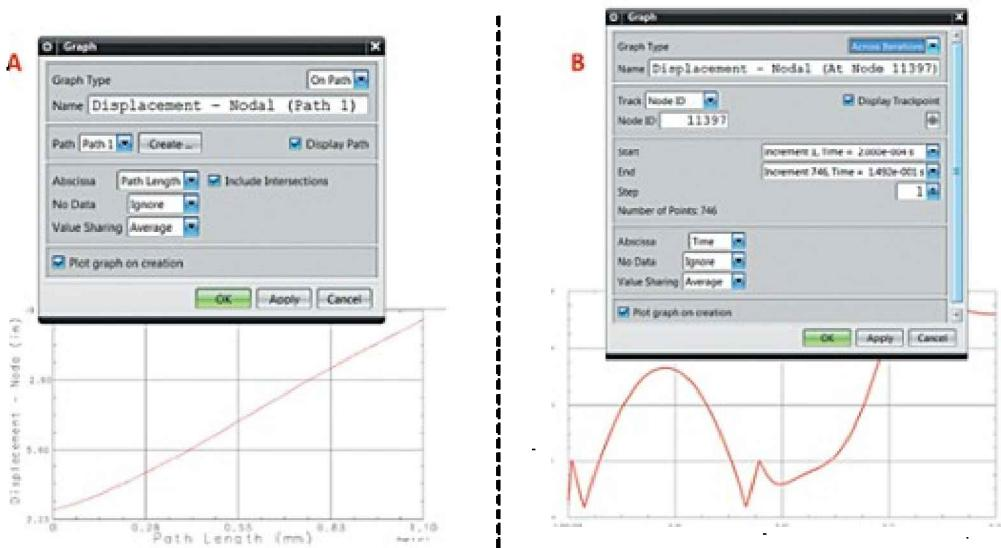

Figure 5.45. Creating graphs of values that vary with path and time
1. *Extract On Path* creates value variation graphs along a specified path (trajectory) (Figure 5.45, A). In this case you specify the *Path*, select the type of values to plot on the *Abscissa*. If a node contains more than one value (for example, if the node belongs to elements with different materials), specify the value to use for the *Value Sharing* option: mean, minimum, or maximum.
2. *Across Iterations* creates value variation graphs depending on increments (time) (Figure 5.45, B). Specify the node number or coordinate in the *Track list*, then select the node by directly entering its number or coordinates in the *Node ID* box or by clicking the node on the model. Select the initial and final increment and the necessary *Step*. Select the type of values on the *Abscissa*: point in time or increment number. If necessary, maintain the *Value Sharing* parameter.